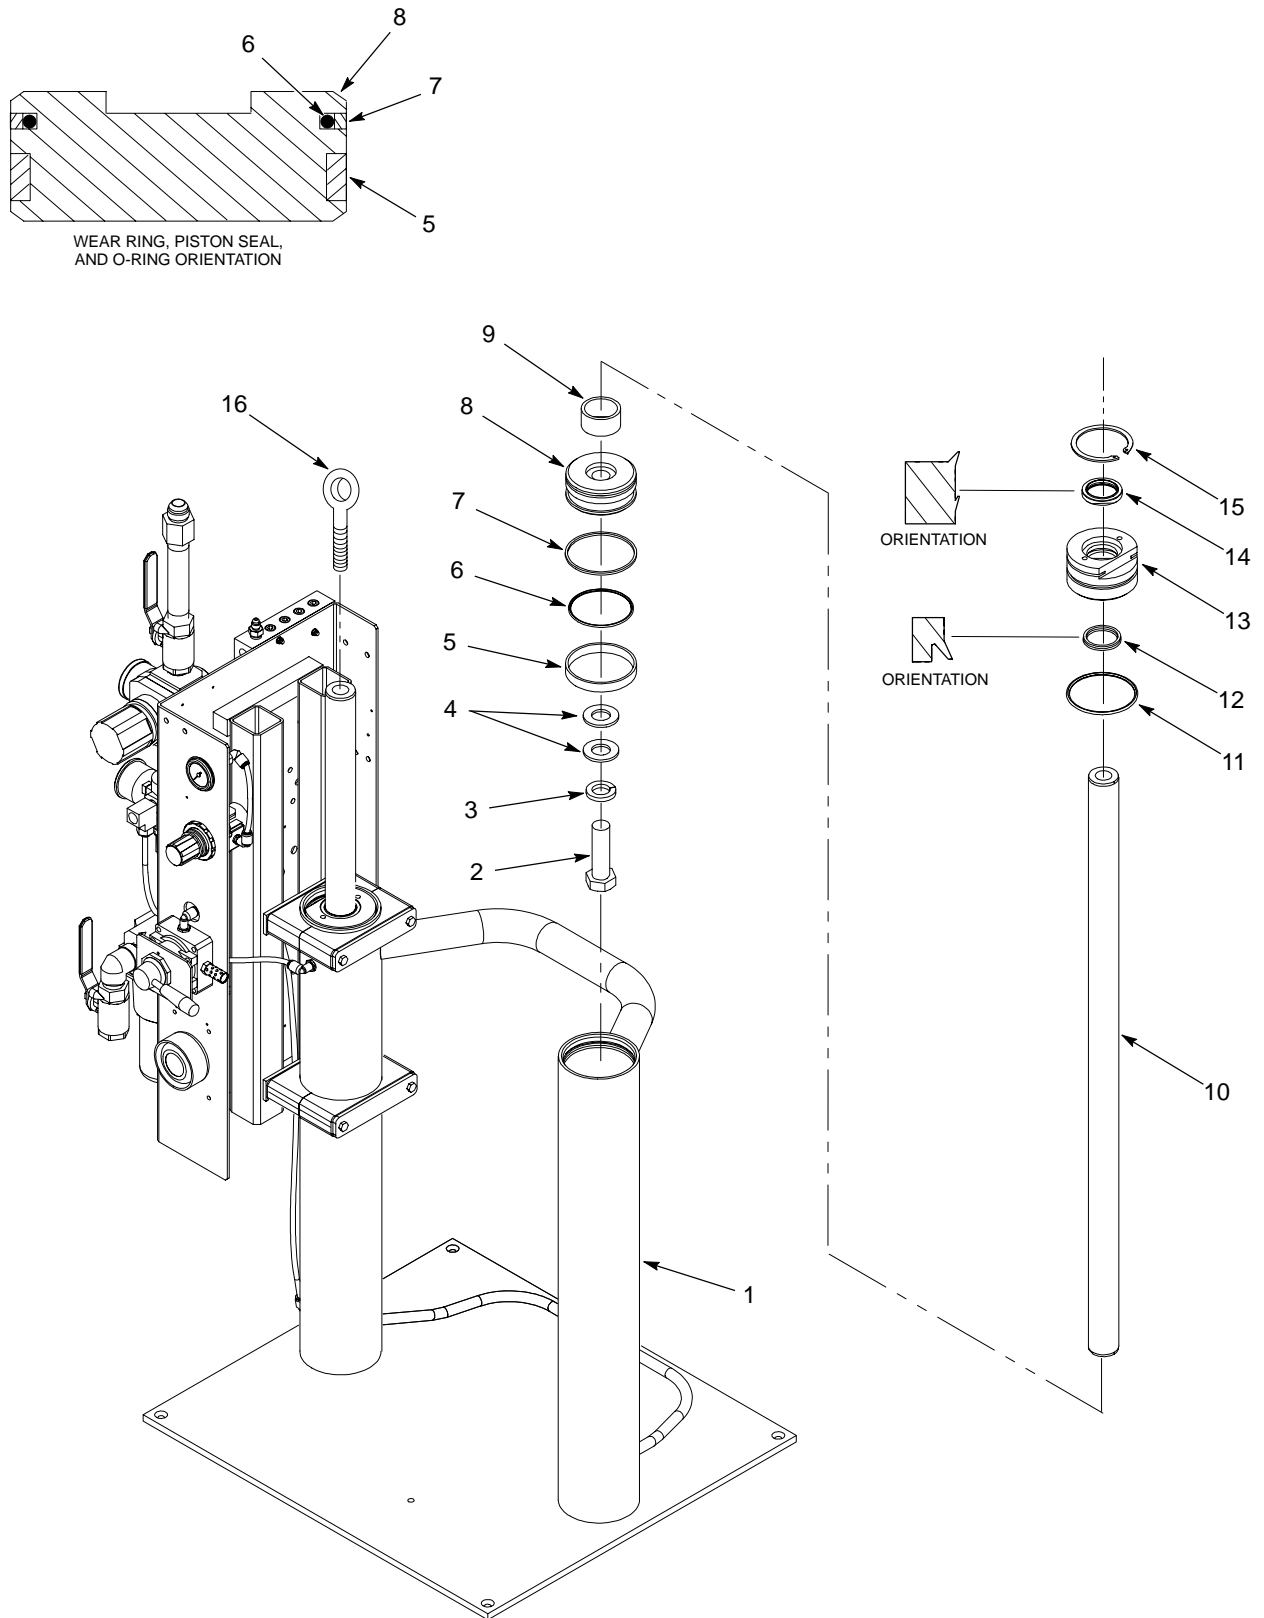

Figure 5 Rebuilding the Small Frame Cylinders
1. See Figure 5. Thread the  $\frac{7}{8}$ -14 eye bolts (16) into each cylinder shaft (10).
- a. Note the orientation of the cylinder heads (13).
- b. Compress the retaining ring (15) using the ID snap ring pliers.
- c. Keep the retaining ring compressed and use the lifting device to remove the cylinder shaft (10) from the air cylinder (1).
4. Remove the eye bolts (16) from the cylinder shafts (10).
5. Remove the cylinder heads (13) from the cylinder shafts (10). Remove the wiper scrapers (14), packings (12), and O-rings (11) from each cylinder head (13).
6. Remove the hex head screws (2), lock washers (3), and flat washers (4) from the cylinder shafts (10).
7. Remove the pistons (8) and spacers (9). Remove the wear rings (5), piston seals (7), and O-rings (6) from each piston (8).
1. See Figure 5. Clean the inside walls of the air cylinders (1). Immediately apply a coating of O-ring lubricant to prevent corrosion.
2. Clean the pistons (8), cylinder heads (13), and cylinder shafts (10).
3. Inspect the cylinder heads (13) for damage to the cylinder head bearings and replace if necessary. The bearing is machined with the head.
4. Lubricate new packings (12) and new wiper scrapers (14) with petroleum jelly. Install these parts onto each cylinder head (13).
5. Lubricate new O-rings (11) with O-ring lubricant. Install an O-ring onto each cylinder head (13).
6. Inspect the pistons (8) for damage and replace if necessary.
7. Using O-ring lubricant, lubricate and install the O-rings (6), piston seals (7), and wear rings (5) onto each piston (8).
1. See Figure 5. Place a light coating of petroleum jelly on each cylinder shaft (10).
2. Install the spacers (9) onto each cylinder shaft (10).
3. Apply Loctite 271 to the threads of the hex head screws (2). Install the pistons (8) onto the cylinder shafts (10) using the flat washers (4) lock washers (3), and screws. Tighten the screws to 190–195 ft-lb (258–264 N•m).
4. Carefully guide the cylinder shaft (10) into the air cylinder (1) until it bottoms out. Install the remaining cylinder shaft in the same manner.
5. Install the cylinder heads (13):
- a. Install the retaining ring (15), sharp side up, onto each cylinder head. Install the cylinder head onto the cylinder shaft (10).
- b. Compress the retaining ring (15) using the ID snap ring pliers and install the cylinder head into the cylinder shaft (10). Make sure that the retaining ring seats into the groove on the air cylinder (1).
6. Remove the eye bolts (16) from the cylinder shafts (10).